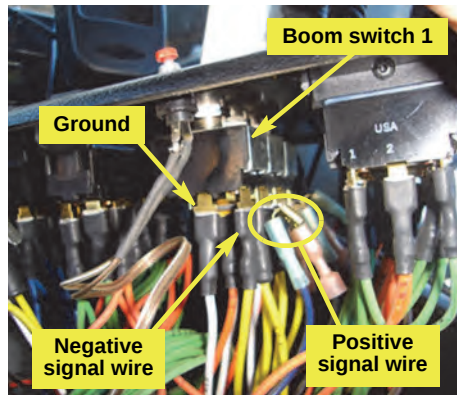

Figure 2b: Boom switch wiring
- b. Raise the boom switch panel and locate the four connections for each switch (Figure 2b).